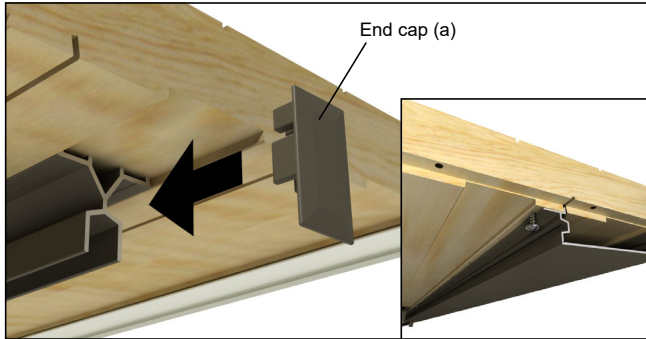

Figure 49
10. Once all of the panels are installed operate the doors to ensure smooth movement and correct positioning of the pocket interlocks, head jamb, and side jambs. Install header guide end caps. See figure 49.